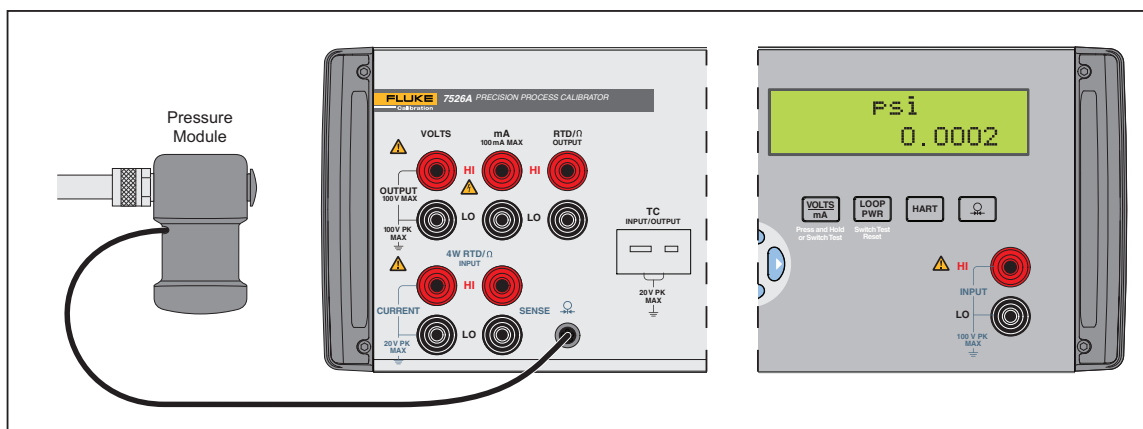

Figure 3-3. Isolated Pressure Module Connection
1. Connect the pressure module to the Product as shown in Figure 3-3.